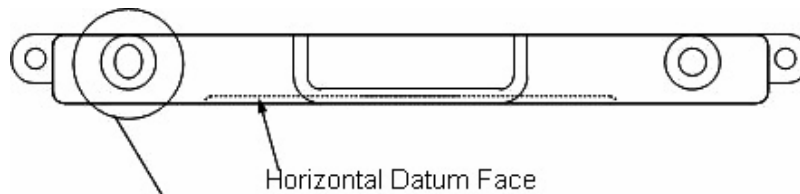

Figure 2: Horizontal Datum Face
1. Position the spring plank casting upside down on the machine bed using the air spring seat as the horizontal datum. See Figure 2.
2. Align the axis of the boring tool perpendicular to the two outer faces of the anti roll bar spigot locations. See Figure 2.